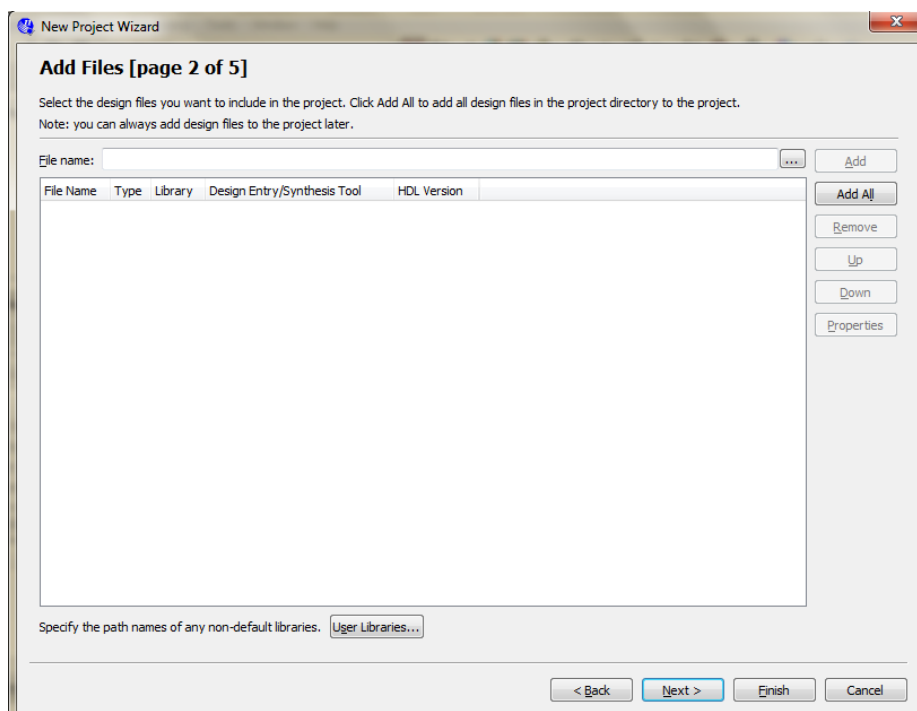

Figure 7. The wizard can include user-specified design files.
- Click **Yes**, which leads to the window in Figure 7.